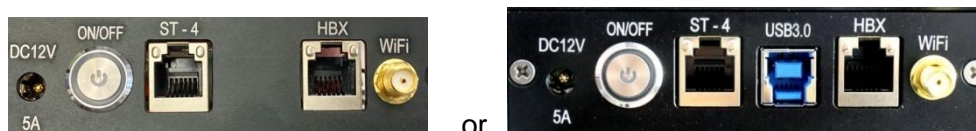

Figure 5. Ports on a **CEM70G** mount base
The main cable connection ports of a CEM70G are shown in Figure 5:
- USB3.0 port X3: Powered USB 3.0 ports. It is connected to the USB3.0 input on mount base (Figure 5).